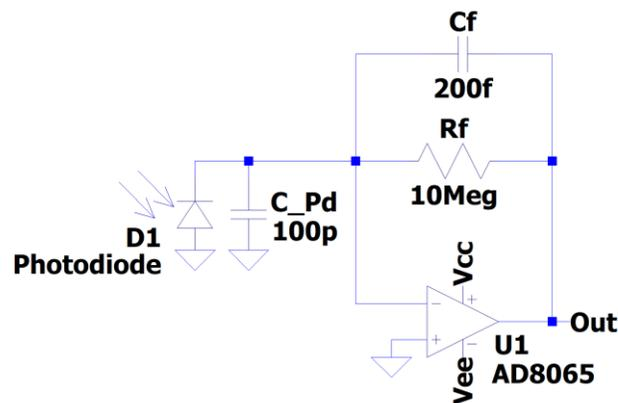

Figure 1: Conventional Simple High-Gain TIA (explicitly showing photodiode capacitance) The op amp has a 145MHz GBP.
Conventional simple high-gain TIA: See *Figure 1*. The magnitude of the output voltage is essentially simply the photodiode output current times the feedback resistance (R_f). Two of the issues that exist for this circuit are high voltage noise gain (undesirable) and a relatively high gain bandwidth product (GBP) needed for the op amp. Other issues such as how to reliably achieve a very small C_f or a large R_f are discussed in other technical briefs.
1. **Undesirably-High Voltage Noise Gain:** The voltage noise gain of the *Figure 1* circuit is defined as the gain seen at the output due to op amp voltage noise referred to the positive input, $V_{\text{gain}} = 1 + Z_f / Z_{\text{in}}$. Here, $Z_f = 1/(sC_f) \parallel R_f$, and $Z_{\text{in}} = 1/(sC_{\text{Pd}})$. So, $V_{\text{gain}} = 1 + [s R_f C_{\text{Pd}} / (s C_f R_f + 1)]$. A large R_f is highly desirable in terms of noise performance if the photodiode current is small, and a small C_f is necessary to achieve a relatively high bandwidth. However, one is then stuck with a relatively high voltage noise gain that is essentially set with the ratio of C_{Pd} / C_f .
The main disadvantages of this circuit are that it inverts the output compared to the Figure 1 circuit, and more importantly, it has a negative offset at the output. This offset is approximately equal to the JFET gate leakage current times R_f (about 40mV here). The offset may not matter if one only cares about the AC content of the signal (which can be gotten rid of with an AC-coupling capacitor at the op amp output). Alternatively, one can add in a small positive offset at the non-inverting input of the op amp (e.g., with a DAC) or simply subtract the offset in software if the output is digitized.
The advantages of the TIA circuit with the bootstrap JFET are substantial in that it allows using an op amp with a GBP an order of magnitude smaller, and more importantly, **lowers the voltage noise gain**. This can be seen in Figure 5 where the bootstrapped TIA with the 15.4-MHz op amp ($C_{Pd} = 100\text{pF}$) has about 19dB less noise gain than the simple TIA with the 145-MHz op amp ($C_{Pd} = 100\text{pF}$)! Also note that the bootstrap JFET with $C_{Pd} = 100\text{pF}$ allows a similar reduction in voltage noise gain as reducing C_{Pd} from 100pF to 10pF in Figure 1. One can see from Figure 6 that both of the TIAs roll off (-3dB) at about 118kHz.